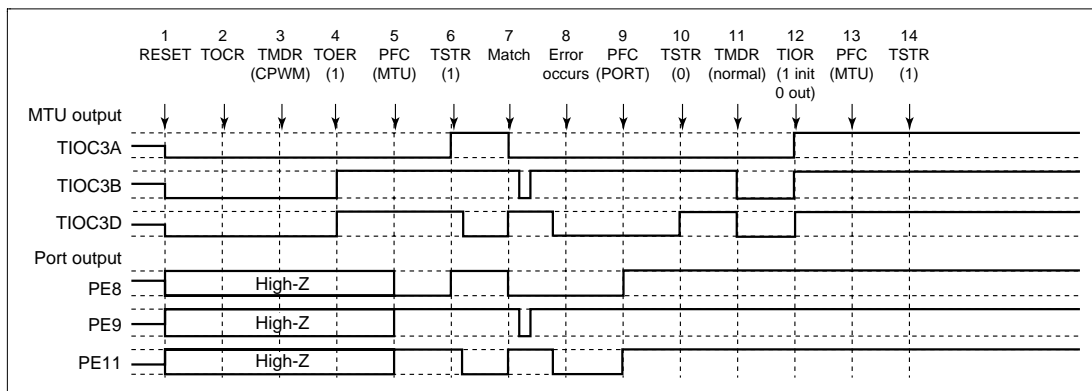

Figure 12.116 Error Occurrence in Complementary PWM Mode, Recovery in Normal Mode
(21) Operation when Error Occurs during Complementary PWM Mode Operation, and Operation is Restarted in Normal Mode: Figure 12.116 shows an explanatory diagram of the case where an error occurs in complementary PWM mode and operation is restarted in normal mode after re-setting.
1 to 10 are the same as in figure 12.116.